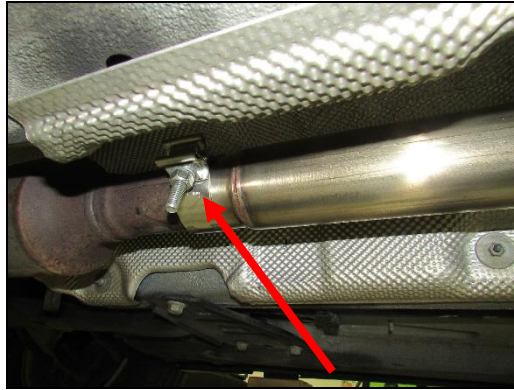

Figure 5
1. Slide the supplied (x1) 2.25" band clamp over the OE exhaust. Slide on the Blackheart 2-1/2" mid pipe on the OE exhaust (**Figure 5**).